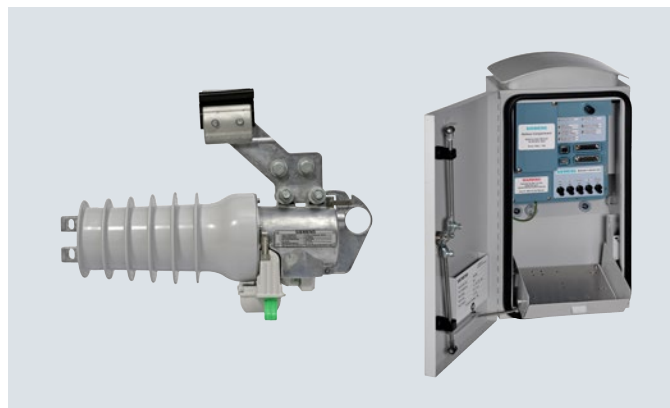

Fig. 4.3-7: Fusesaver (left) and Remote Control Unit – RCU (right)
Fusesaver (fig. 4.3-7, fig. 4.3-10), the world's fastest medium-voltage (MV) outdoor vacuum circuit-breaker, is the most cost-effective solution for optimizing reliability while minimizing operating costs of rural overhead MV networks. It is capable of almost completely removing the impacts of temporary faults on lateral lines\*. Thanks to its unique fault-clearing speed (as fast as one half-cycle), the Siemens Fusesaver protects the fuse in the case of temporary faults (table 4.3-6, table 4.3-7). Fusesaver is a new class of intelligent, compact and low-cost single-phase circuit-breaker that minimizes lost minutes of supply by protecting lateral line fuses from blowing on transient faults.